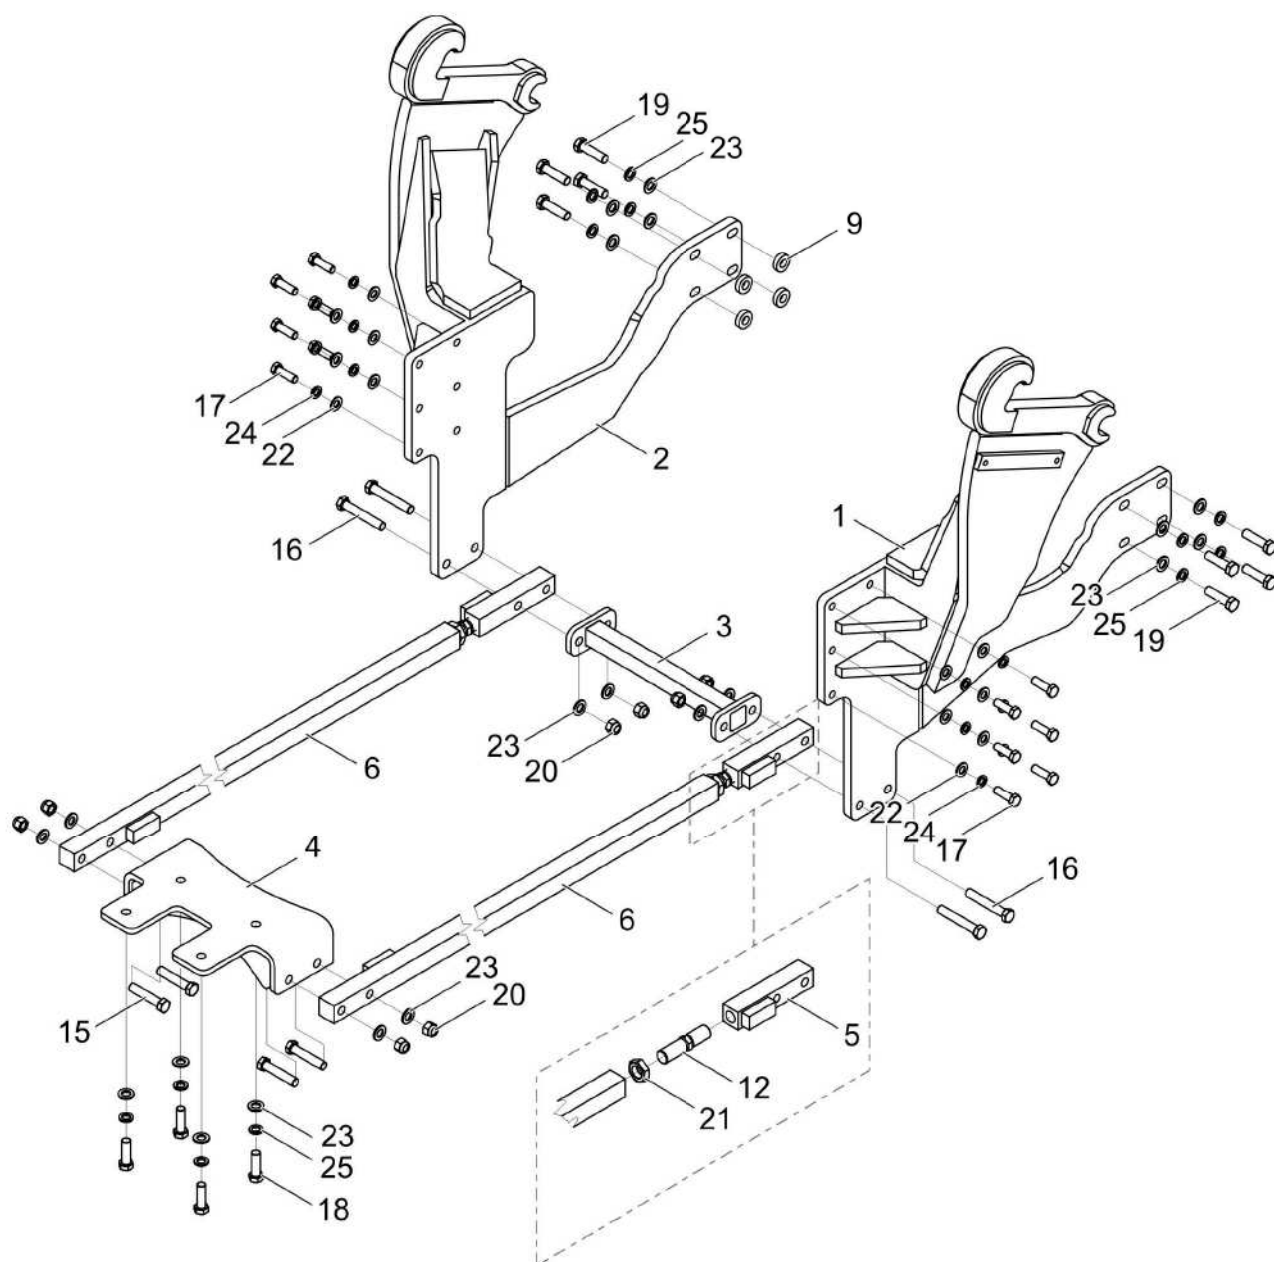

FIG. 4.6A **Mounting bearing frame on tractors**
In KIOTI DK751C(DK753C), DK901C(DK903C) tractors rear part of brackets (1) and (2) (FIG. 4.6A) screw down to half frames with bolts (17) with washers (24) and (25) however from part with bolts (19) with washers (23) and (25), in left bracket apply sleeves (9). Brace bracket (4) is mounted to driving axle using bolts (18), washers (32) and (25). To brace bracket (4), using bolts (15) with nuts (20) and washers (23) provisionally screw down brace rods (6), which securing rod (3) shall connect with brackets (1) and (2) using bolts (16), nuts (20) and washers (23). Make certain that double ended bolts (12) are uniformly screwed out from brace rods (6) and beam (5). Eliminate slack from bearing frame by screwing out double ended bolt (12) from brace rod (6) and beam (5), tighten counter nuts (21). Tighten nuts and bolts (15) and (16).